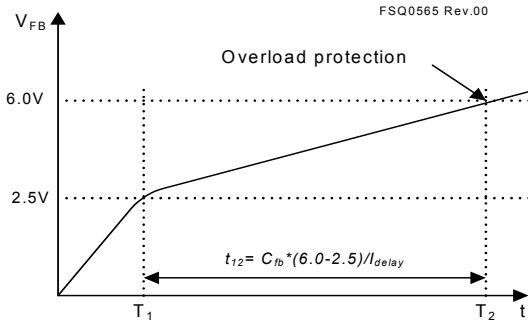

Figure 30. Overload Protection
**4.1 Overload Protection (OLP):** Overload is defined as the load current exceeding its normal level due to an unexpected abnormal event. In this situation, the protection circuit should trigger to protect the SMPS. However, even when the SMPS is in the normal operation, the overload protection circuit can be triggered during the load transition. To avoid this undesired operation, the overload protection circuit is designed to trigger only after a specified time to determine whether it is a transient situation or a true overload situation. Because of the pulse-by-pulse current limit capability, the maximum peak current through the SenseFET is limited, and therefore the maximum input power is restricted with a given input voltage. If the output consumes more than this maximum power, the output voltage ( $V_O$ ) decreases below the set voltage. This reduces the current through the optocoupler LED, which also reduces the optocoupler transistor current, thus increasing the feedback voltage ( $V_{FB}$ ). If  $V_{FB}$  exceeds 2.5V, D1 is blocked and the 5 $\mu$ A current source starts to charge  $C_B$  slowly up to  $V_{CC}$ . In this condition,  $V_{FB}$  continues increasing until it reaches 6V, when the switching operation is terminated, as shown in Figure 30. The delay time for shutdown is the time required to charge  $C_{FB}$  from 2.5V to 6V with 5 $\mu$ A. A 20 ~ 50ms delay time is typical for most applications.